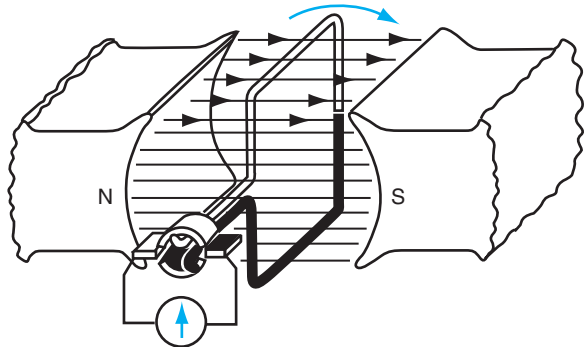

Figure 13-10 Rotating loop, position 3.
In position 3, Figure 13-10, the loop is now in a vertical position again and no voltage or current exists in any part of the circuit.
- 8. In Figure 13-10, no voltage or current exists in any part of the circuit. Why?